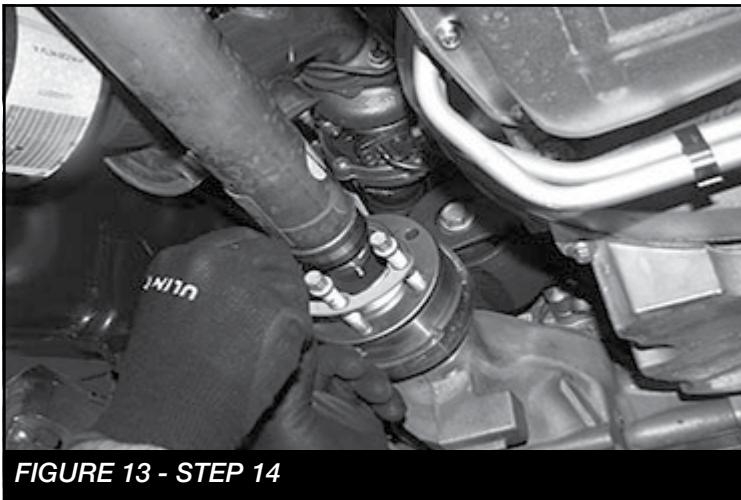

FIGURE 13 - STEP 14
14. Remove the front drive shaft bolts where they attach to the front differential. Support the end of the driveshaft before removing the front differential. **SEE FIGURE 13**